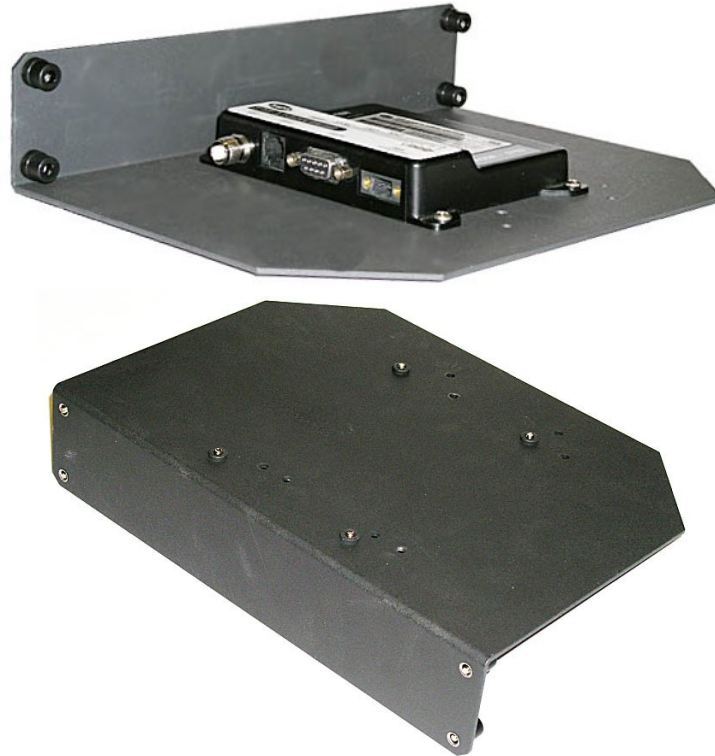

Figure 21-73 TransNET 900 Radio Modem Mounted on Metal Bracket - Front and Rear View
1. Attach the TransNET 900 radio modem to the metal bracket (#0789971V39 from FHN7067A) using the four supplied screws, inserting the screws from above. (See Figure 21-73 below.)